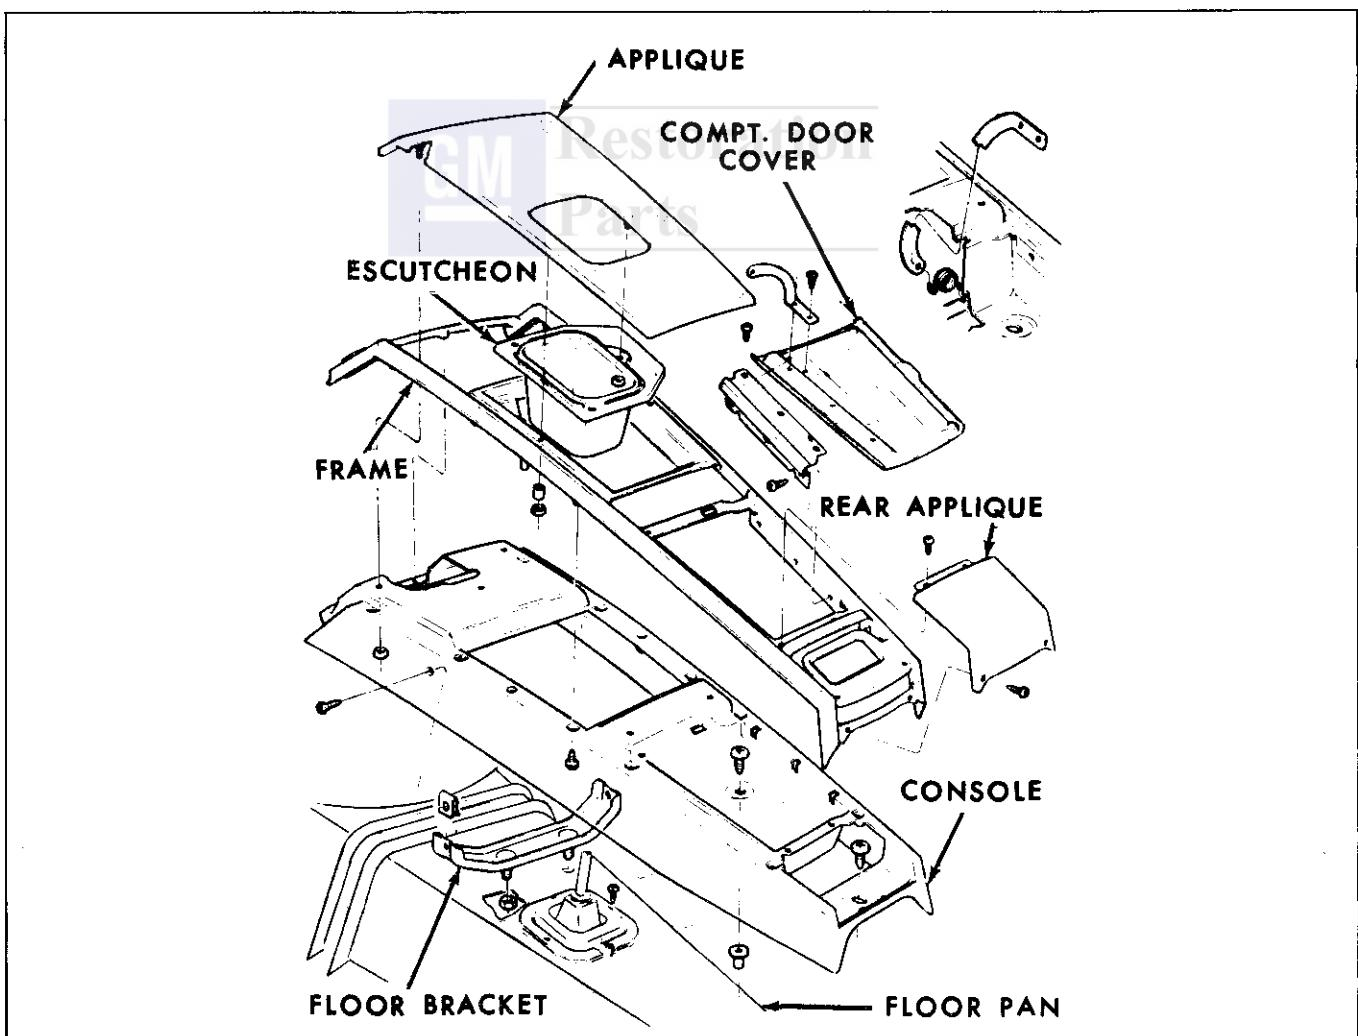

Fig. 15-32 Console—Firebird Manual Transmission
Manual Transmission (Fig. 15-32)
5. Remove rear applique (see Fig. 15-32) and screw underneath.
7. To disassemble (See Fig. 15-32), remove screws holding upper frame assembly to console. Remove nuts and remove applique and gearshift escutcheon.